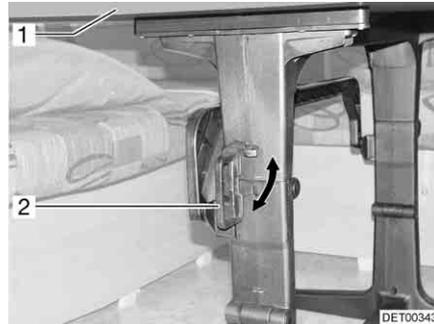

Fig. 67 Swivel table
- Rotate the handle (Fig. 67,2) into the horizontal position.
- Swivel the table-top (Fig. 67,1) downward in a circular movement.